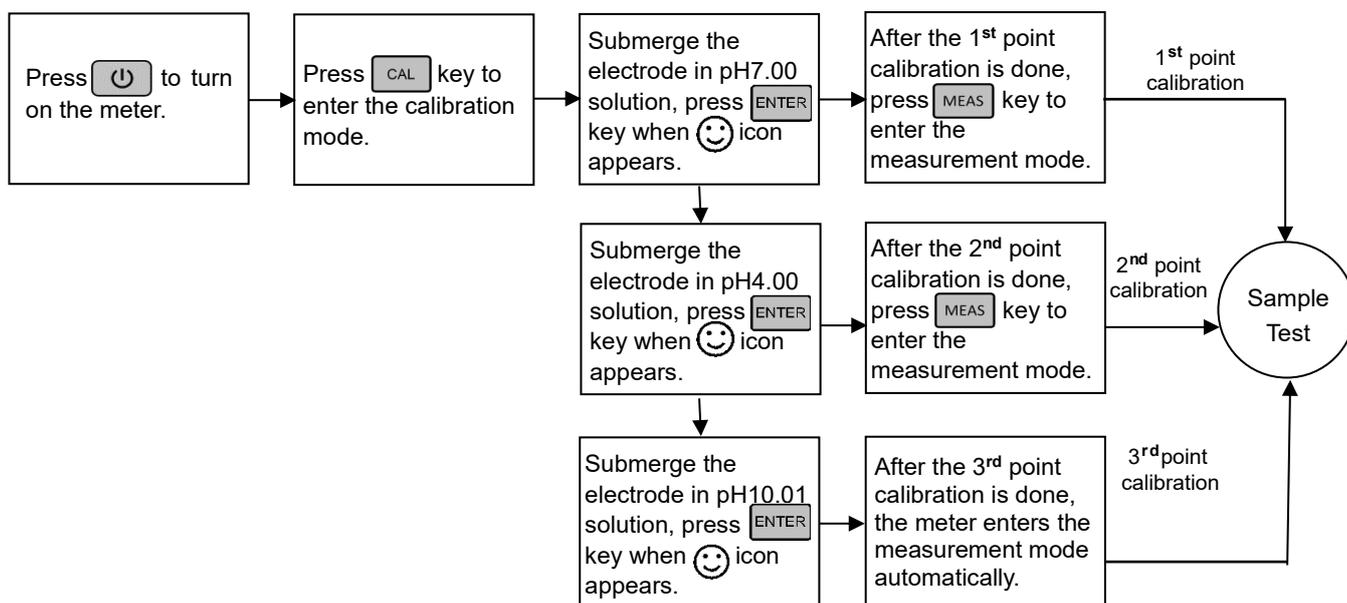

Figure-10
5.5.1 Rinse the pH electrode in distilled water or distilled water, dry it, and dip it into sample solution. Stir the solution gently and let it stand still in the sample solution until ☺ icon appears and stays on LCD, get the pH reading, which is pH value of sample solution, please refer to Figure-10 for calibration and measurement process of the pH meter.